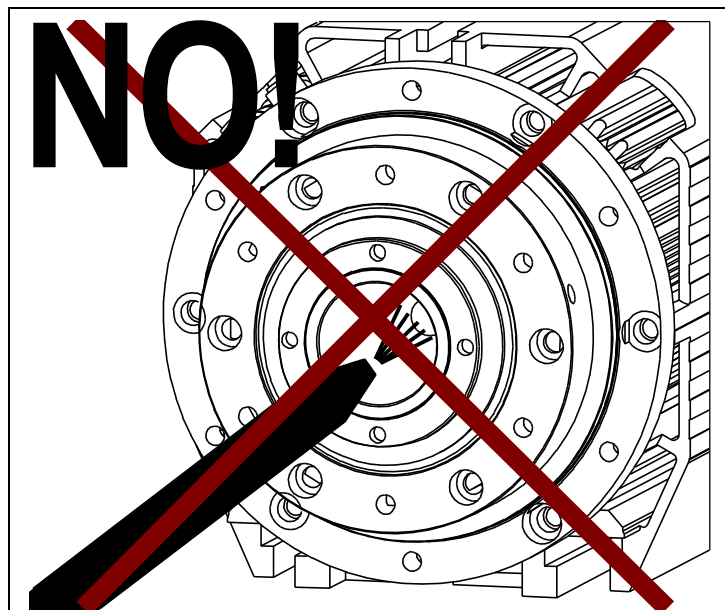

Figure 12.5 Follow the instructions in section 12.1.1 to clean the tool holder housing in the spindle nose.
**BLOWING COMPRESSED AIR INTO THE SPINDLE NOSE WHEN THERE IS NO TOOL HOLDER IN PLACE CAN CAUSE DAMAGE (Figure 12.5).**